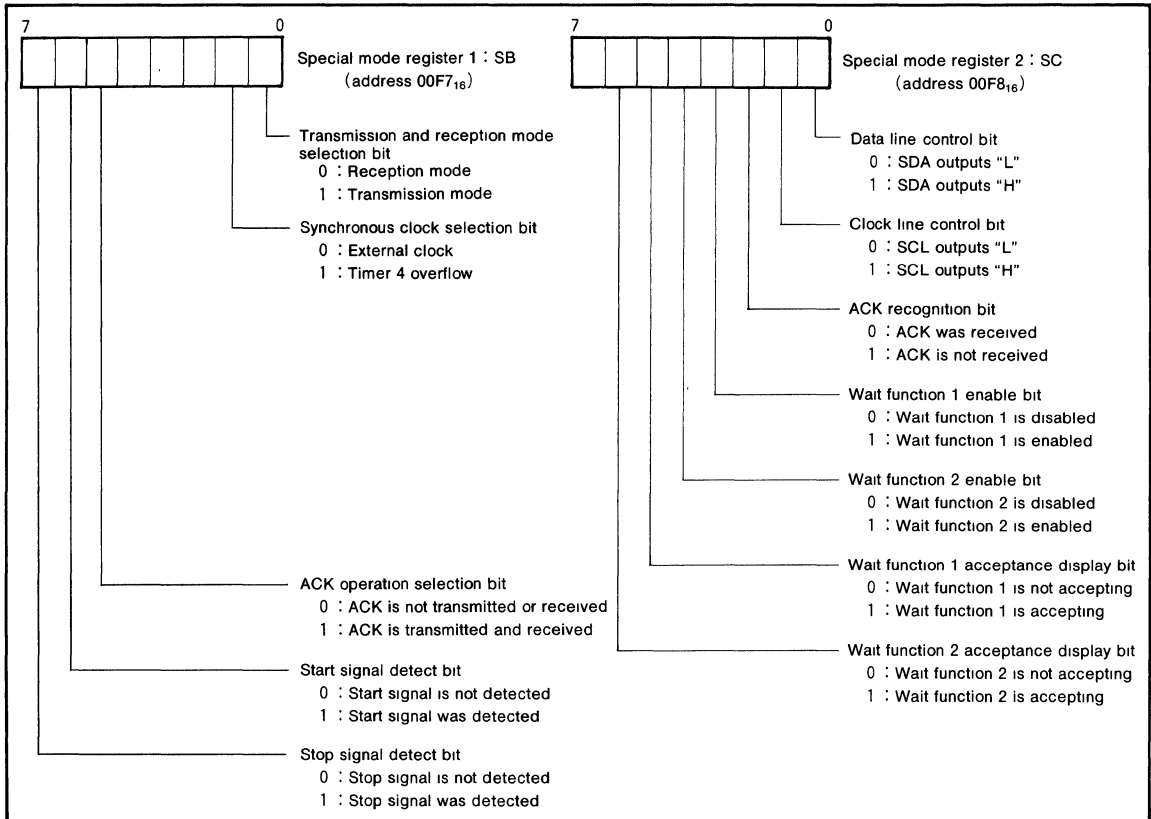

Fig. 18 Structure of special mode registers 1 and 2
(1) Master transmission
- ① To generate an interrupt at the end of transmission, set bit 3 of serial I/O mode register 2 (address 00CE16) to "1" so as to special serial I/O interrupt is selected.
- ② Then set bit 1 of interrupt control register 2 (address 00FF16) to "1" so as to special serial I/O interrupt is enabled. Clear the interrupt disable flag I to "0" by using the CLI instruction.
- ③ The output signals of master transmission SDA and SCL are output from ports P34 and P35. Set all bits (bits 4 and 5) corresponding to P34 and P35 of the port P3 register (address 00C616) and the port P3 direction register (address 00C716) to "1".
- ④ Set the transmission clock. The transmission clock uses the overflow signal of timer 4. Set appropriate value in timer 4 and timer 34 mode register. (For instance, if f(XIN)/2 is selected as the clock source of timer 4 and 9 is set in timer 4 when f(XIN) is 4MHz, the master transmission clock frequency is 100kHz.)
- ⑤ Set contents of the special mode register 2 (address 00F816). (Usually, the value is "0316".)
- ⑥ Set the bits 3 and 4 of serial I/O mode register 1 (address 00CD16) so as the port P34 and P35 is specified to SDA and SCL. After that set the special mode register 1 (address 00F716). Figure 18 shows the structure of special mode registers 1 and 2. Initial setting is completed by the above procedure.
- ⑦ Clear bits 0 and 1 of special mode register 2 (to "0") to make both SDA and SCL output to "L". This is for arbitration. Immediately after this, write data to be